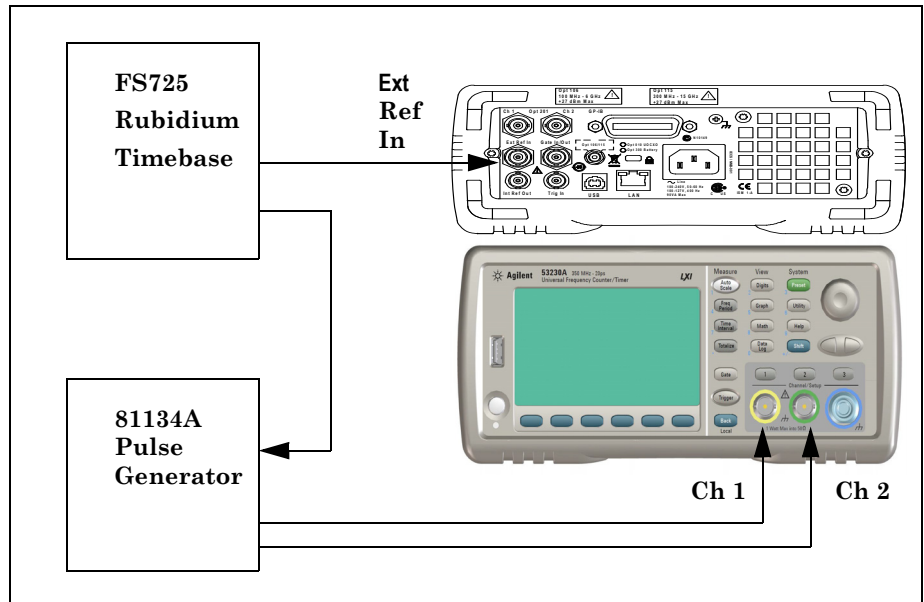

Figure 1-7. Time Interval (Channel 1 to 2) Test Setup
- 1 Connect the equipment as shown in Figure 1-7.